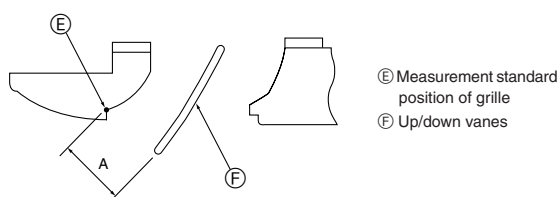

Fig. 8-10
- ③ To adjust the desired airflow direction, slowly move the up/down vanes within the specified range. (Fig.8-10)